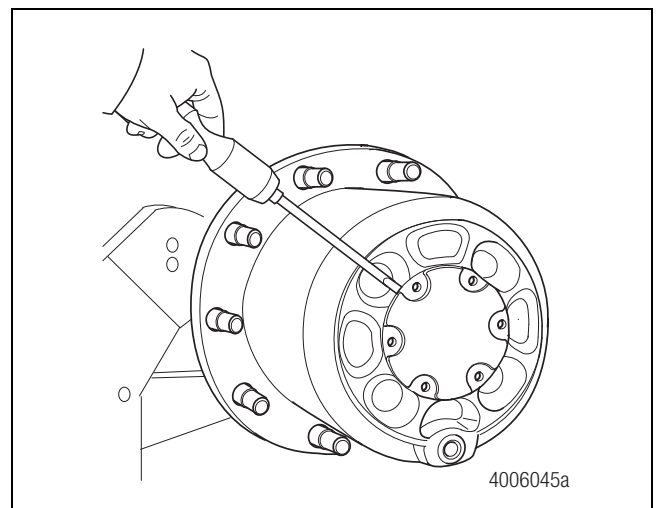

Figure 3.2
3. Use a screwdriver or pry bar to pry up and remove the hub cover. Figure 3.2.